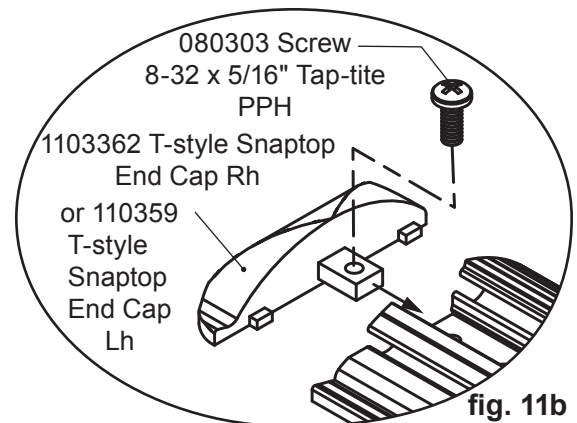

fig. 11b
6.4 Install the end cap. (fig. 11b)